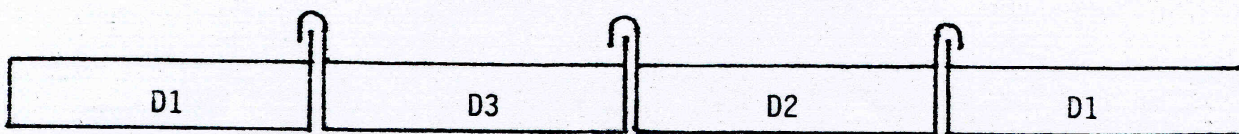

Fig. 3
4. **"Temporarily"** set "F" (side) posts in place. Position "D2" and "D3" (roof) middle panels (Fig 3) between "D1"(roof) end panels and set in place. On inside place an **Inner Roof Connection Bracket** over the 2x4 connections of "D1-D2", "D1-D3" and "D2-D3". Using hexhead screws, fasten **Inner Roof Connection Brackets** in place. (Fig 1E). *(Use Inner Roof Connection Bracket with tabs for the "D2-D3" connection. This will also fasten to the top of the "F" (side) posts.)*